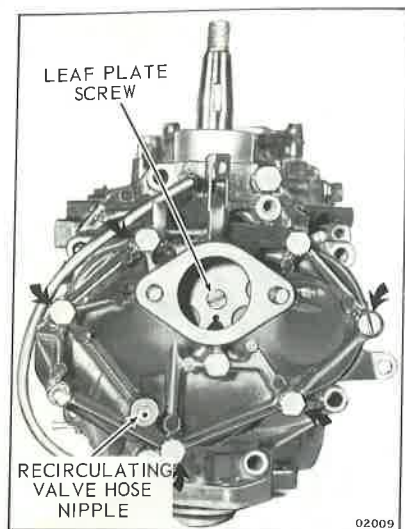

Figure 3-5. Intake Manifold
g. Remove eight screws attaching intake manifold to power head. See Figure 3-5. Remove intake manifold from power head.
h. Remove screw attaching leaf plate to crankcase, leaf valve assembly, and gasket. See Figure 3-5.